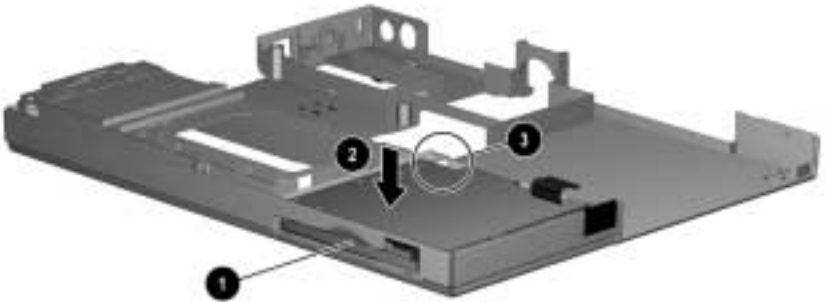

Figure 5-36. *Installing the Diskette Drive*
When installing the diskette drive, first insert the front of the drive through the opening in the base assembly ❶, then lower the back edge of the drive into the base assembly ❷. Make sure the FPC cable ❸ on the back of the drive fits inside the diskette drive shield (Figure 5-36).